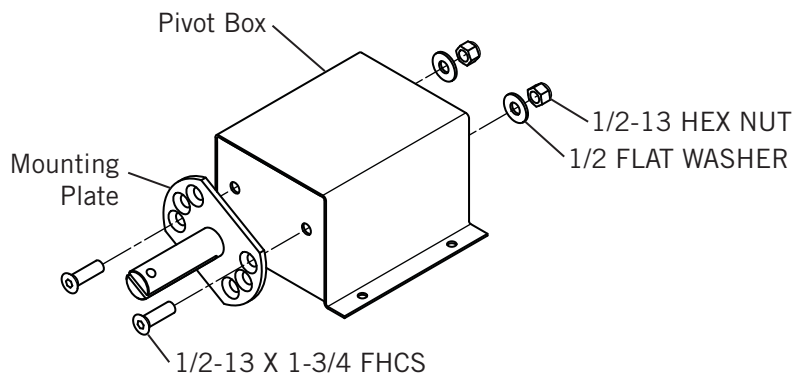

Figure 37
1) See Figure 37. Attach the mounting plate to the pivot box with the provided fasteners.